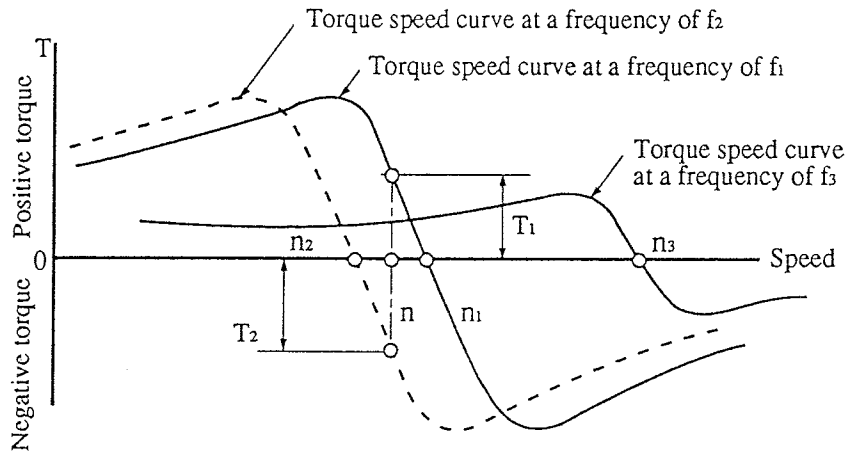
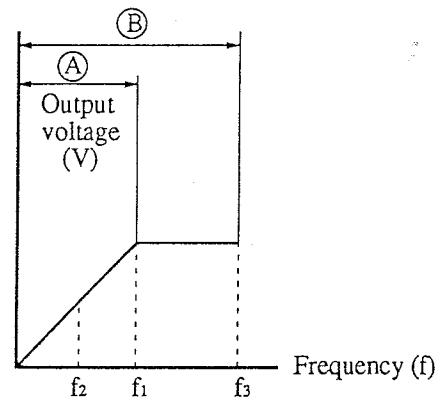

Fig. 8.1 Frequency Change and Motor Torque
Fig. 8.2 V/f Characteristic
If this occurs, the synchronous speed becomes lower than speed of the rotor, a negative slip is caused, and the generated torque of the motor becomes braking torque. The status thereof is shown in Fig. 8.1.
The generated braking torque varies with the V/f characteristic. For example, the reason that the torque at f_1 and torque at f_3 shown in Fig. 8.2 are switched to those shown in Fig. 8.1 is that the ratio of V/f is different.
- $T_B \text{ (A)}$: Mean braking torque at 3 to 60 (50) Hz
- $T_B \text{ (B)}$: Mean braking torque at 3 to 120 (100) Hz
(For (A) and (B), see Fig. 8.2.)